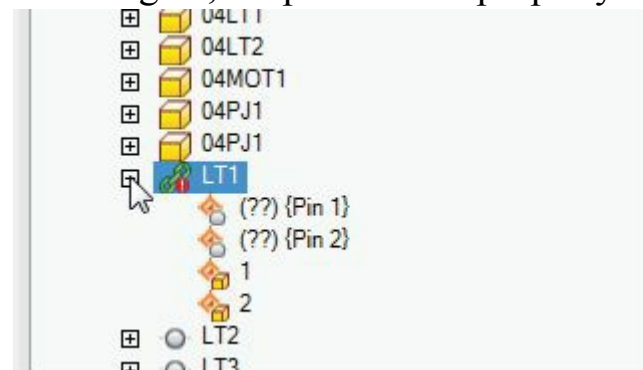

Figure-18. Differences in the link
- If we expand the link, we can find out the differences between the two objects like in Figure-18. In this figure, the pins are not properly connected and hence cause the differences between the linking.